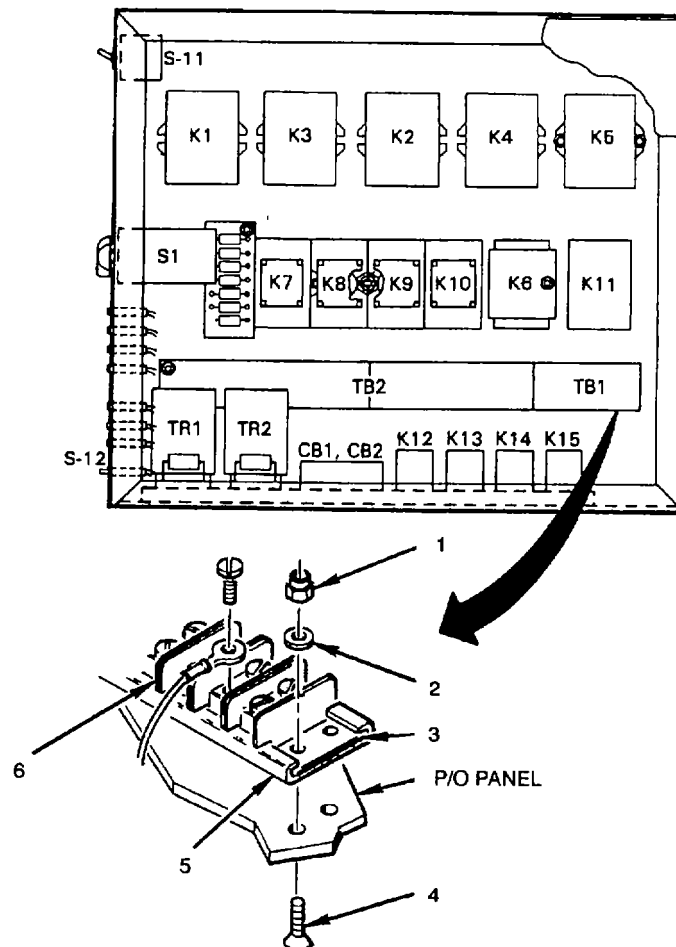

Figure 4-34. Terminal Boards (TB1 and TB2)
- a. Check terminal boards for loose or corroded terminals, cracks and obvious damage. Replace terminal board if cracked or broken (see fig. 4-34)